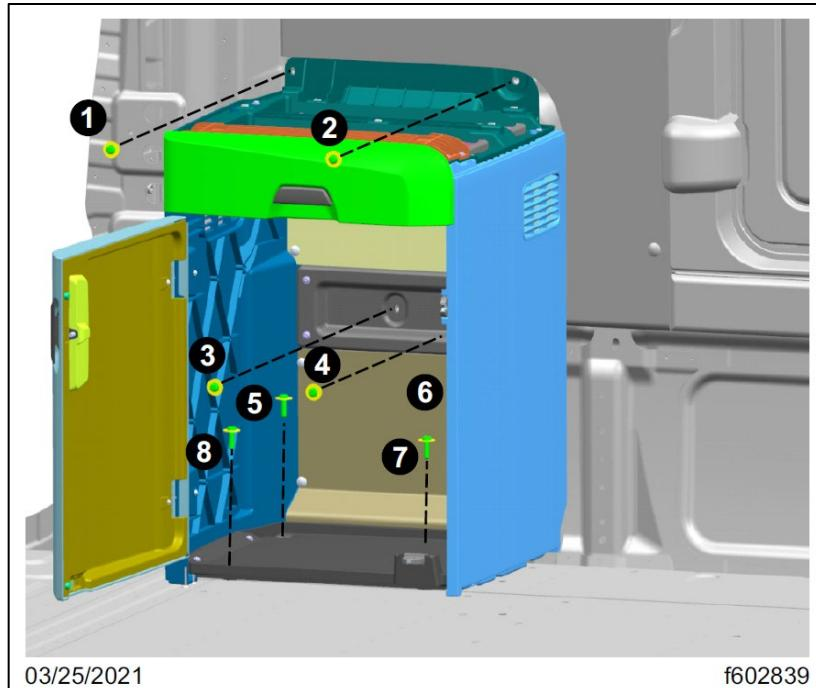

Fig. 71, Fasteners That Attach the Refrigerator Cabinet to the Cab with Tightening Sequence
20. If equipped, install the refrigerator cabinet. See **Fig. 71**.
20.1. See **Fig. 71**. Position the refrigerator cabinet, and install the eight screws that attach the refrigerator cabinet to the cab. Tighten the fasteners 7 to 9 lbf.ft (9 to 12 N.m) as per sequence shown in **Fig. 71**.